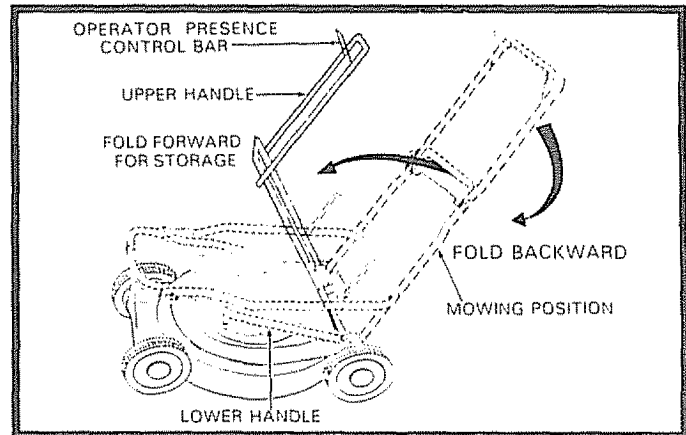

FIG. 19
- You can fold your lawn mower handle for storage as shown in Fig. 19.
IMPORTANT: WHEN FOLDING THE HANDLE FOR STORAGE OR TRANSPORTATION, BE SURE TO FOLD THE HANDLE AS SHOWN IN FIG. 19. IF YOU FOLD THE UPPER HANDLE SECTION THE WRONG WAY, YOU MAY DAMAGE THE CONTROL CABLES.